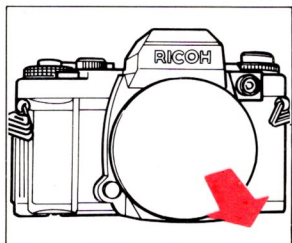

Fig. 4
2. Pull off the body cap. (Fig. 4)